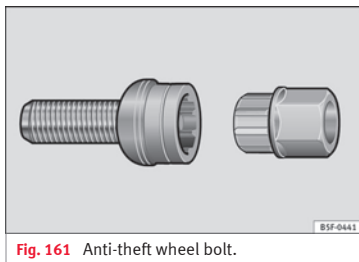

Fig. 161 Anti-theft wheel bolt.
- Insert the adapter onto the wheel bolt and push it on as far as it will go » **Fig. 161**.